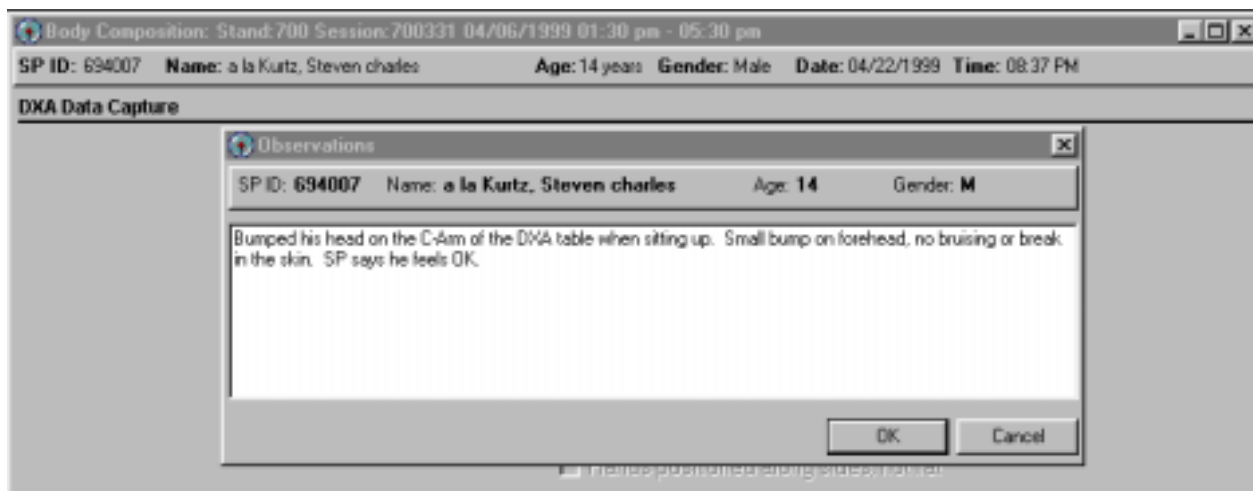

Figure 5-3. Observation referral in body composition
- Type in the message you would like to send to the physician. When you are finished, click OK. See Figure 5-3.